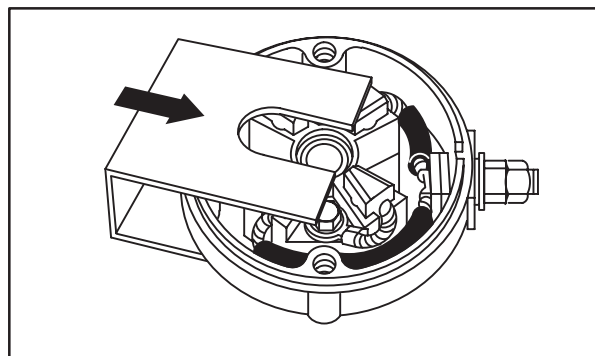

Fig. 25
2. Compress brushes and springs. Assemble brush retainer to end cap, **Fig. 25**.